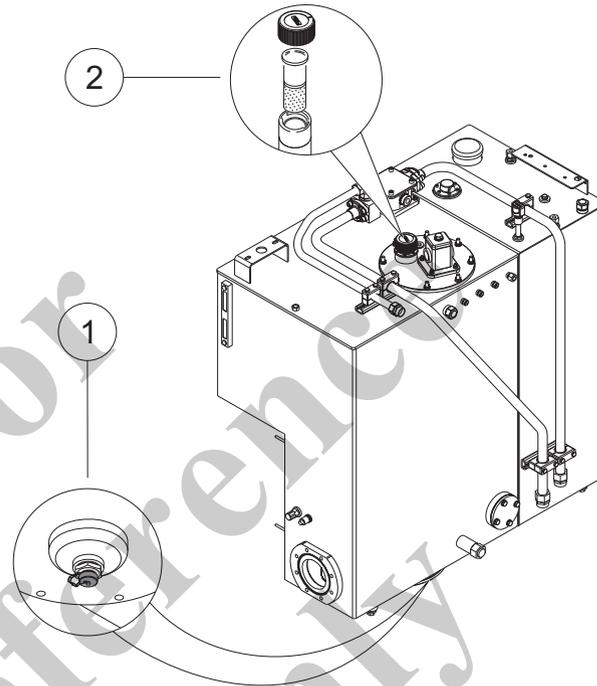
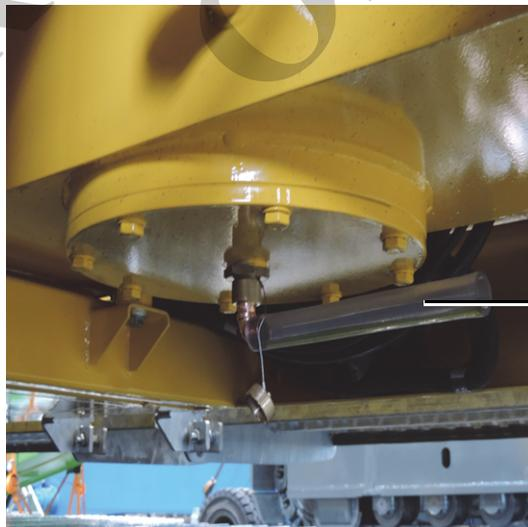

Fig. 209 Oil drain plug and filler neck
Fig. 210 Counterpart with hose on oil drain
7	Unscrew the oil drain plug (1) in Fig. 209 on the bottom of the tank and screw on the counterpart with hose (3) in Fig. 210.
11	Unscrew the cap to the oil filler neck (2) in Fig. 209.